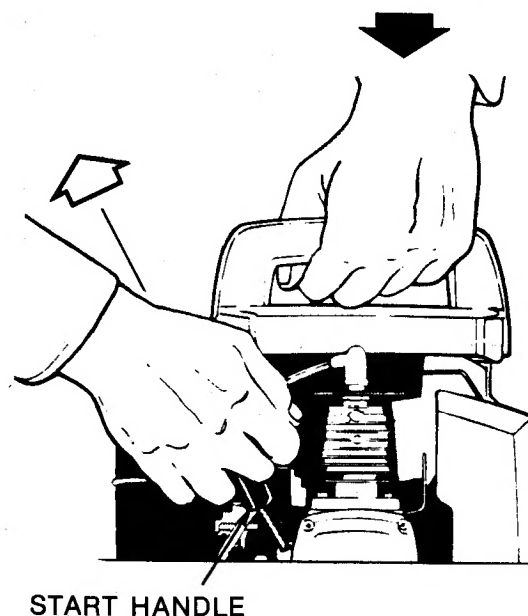

FIG. 5 -- ROPE STARTING
**STEP 4:** Hold the unit steady by the carrying handle then pull the ROPE START HANDLE out in quick, steady motion and repeat until engine starts. **NOTE:** Carefully guide starter handle back each time to help prolong life of the starter (Figure 5).